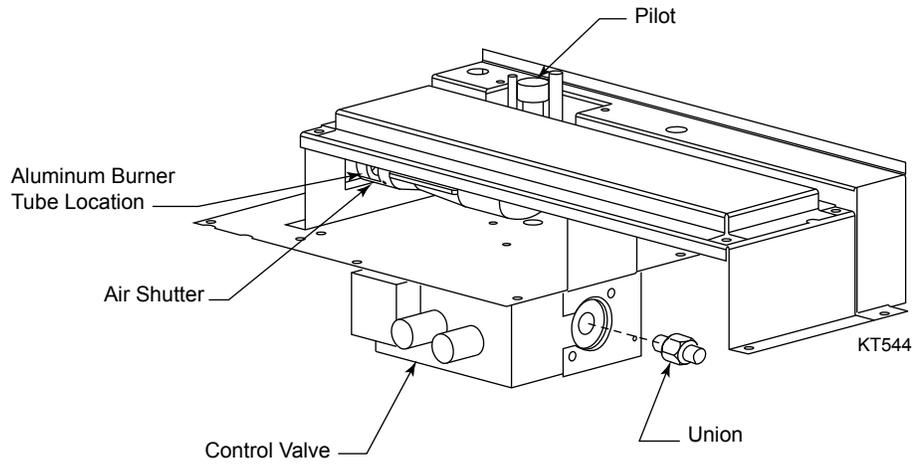

Figure 2
5. Turn off the gas shut off valve. Loosen and disconnect union. *Figure 2*
10. Disconnect the aluminum burner tube from burner orifice using a 9/16" and 3/4" wrench. Remove screws to burner. Lift burner off for access to orifice. *Refer to Figure 2 for burner tube location.*
14. Remove the top of the pilot assembly by pulling straight up on the hood. Replace the pilot orifice with the one included in the kit using a 5/32" hex head or Allen wrench. *Refer to Figure 2 for pilot location.*